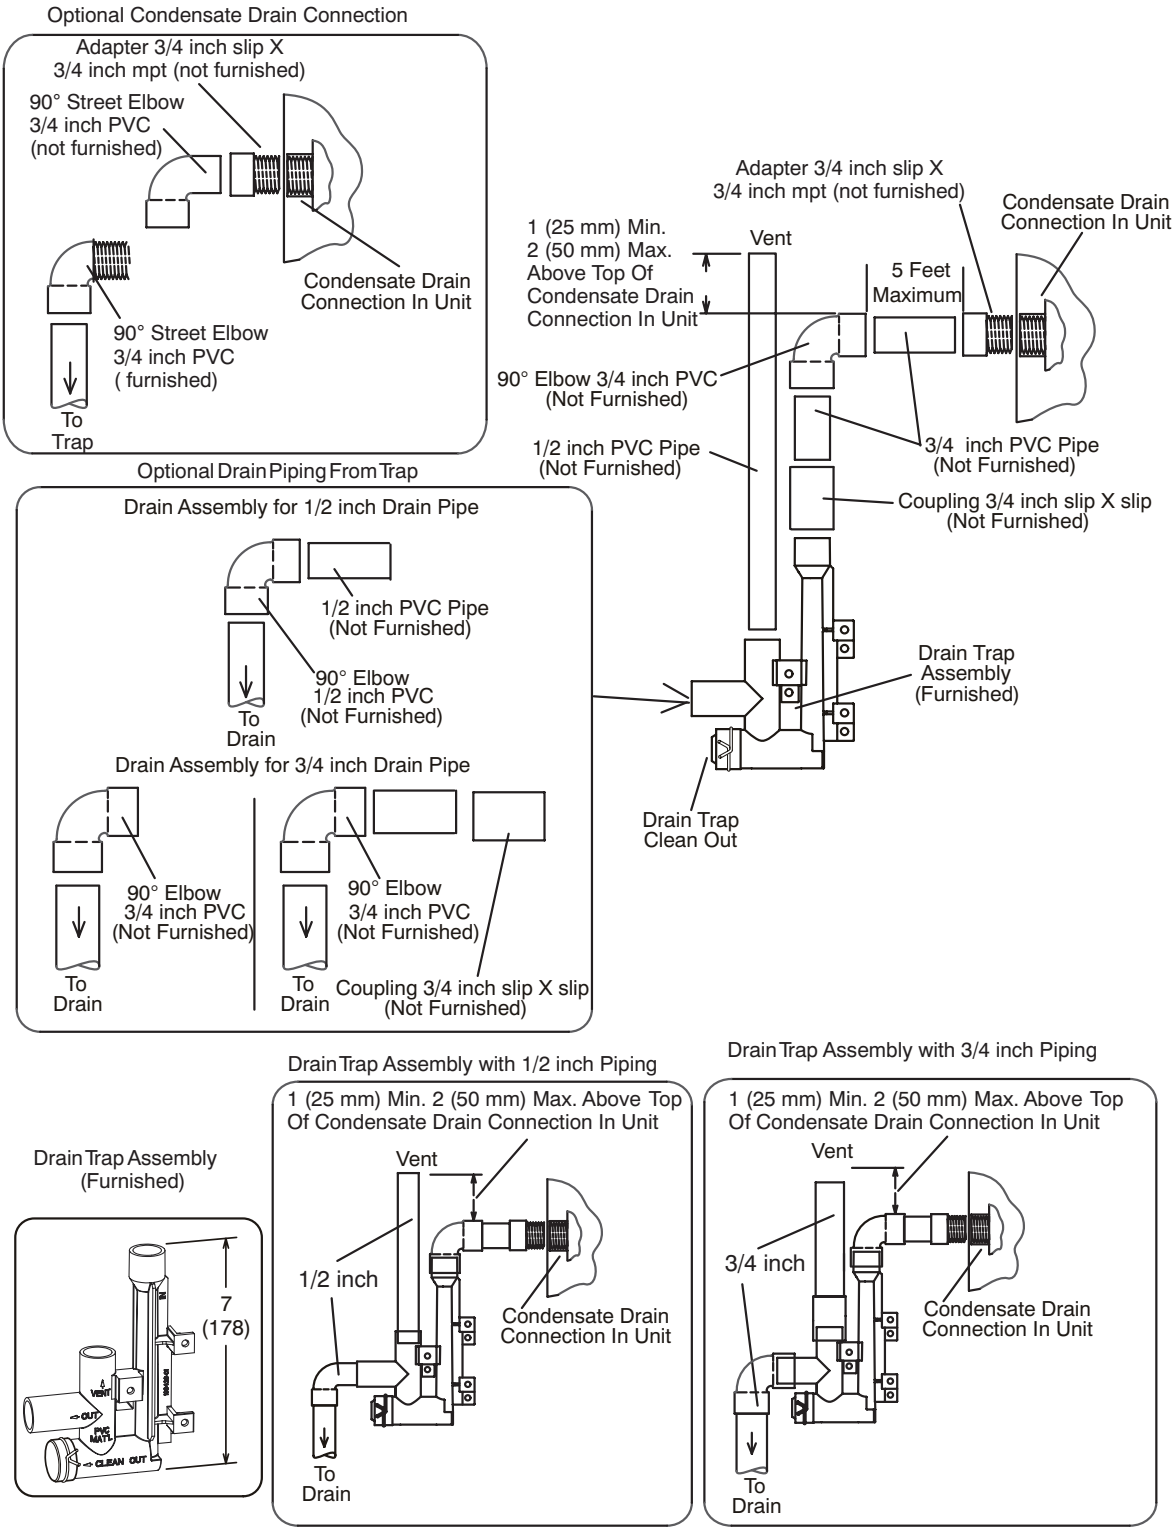

FIGURE 50
- 3 - Install the cap over the clean out opening at the base of the trap. Secure with clamp. See FIGURE 50.
- 4 - Install drain trap using appropriate PVC fittings, glue all joints. Glue the provided drain trap as shown in FIGURE 50 Route the condensate line to an open drain.